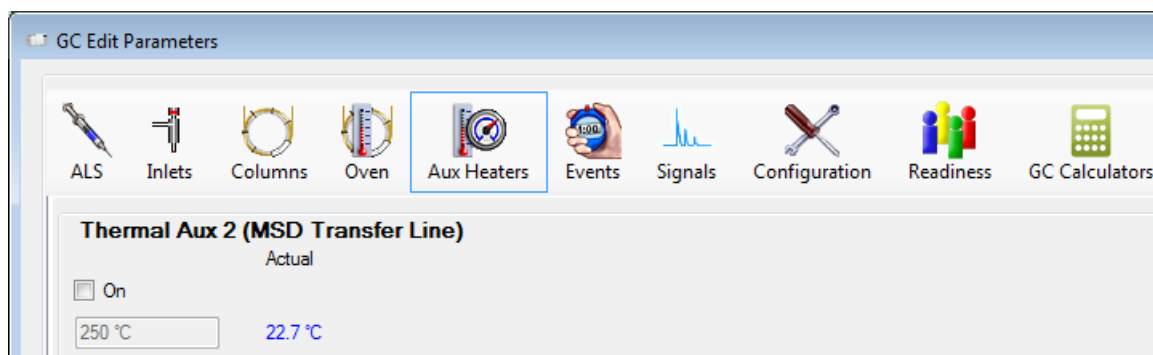

Figure 33. Setting the interface temperature
- 2 Click the **Aux Heaters** icon to edit the interface temperature. (See Figure 33.) This example has the GC/MS interface temperature configured as Thermal Aux 2.